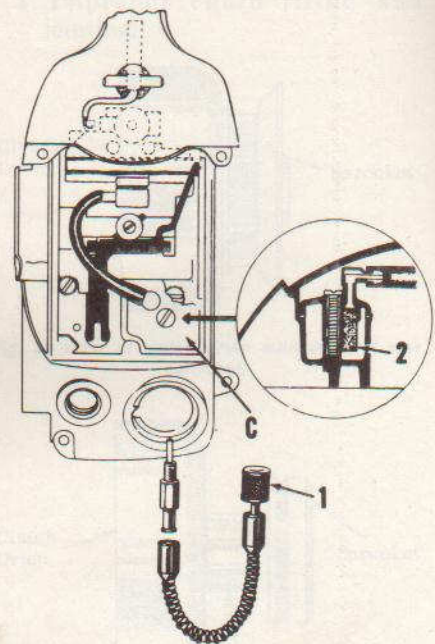

Fig. PR1-3—The first fuel filter (1) is located in the tank. Be sure that gasket located under cover (C) doesn't leak, when servicing the second filter (2).
The main fuel system on all models is equipped with three fuel filters. The first filter (1—Fig. PR1-3) is located in the fuel tank, the second filter (2) is located under a small cover in the air box and the third filter (17—Fig. PR1-1 or PR1-2) is located on the carburetor. Air leakage under covers (19—Fig. PR1-1 or PR1-2) and (C—Fig. PR1-3) can prevent fuel from reaching the carburetor.